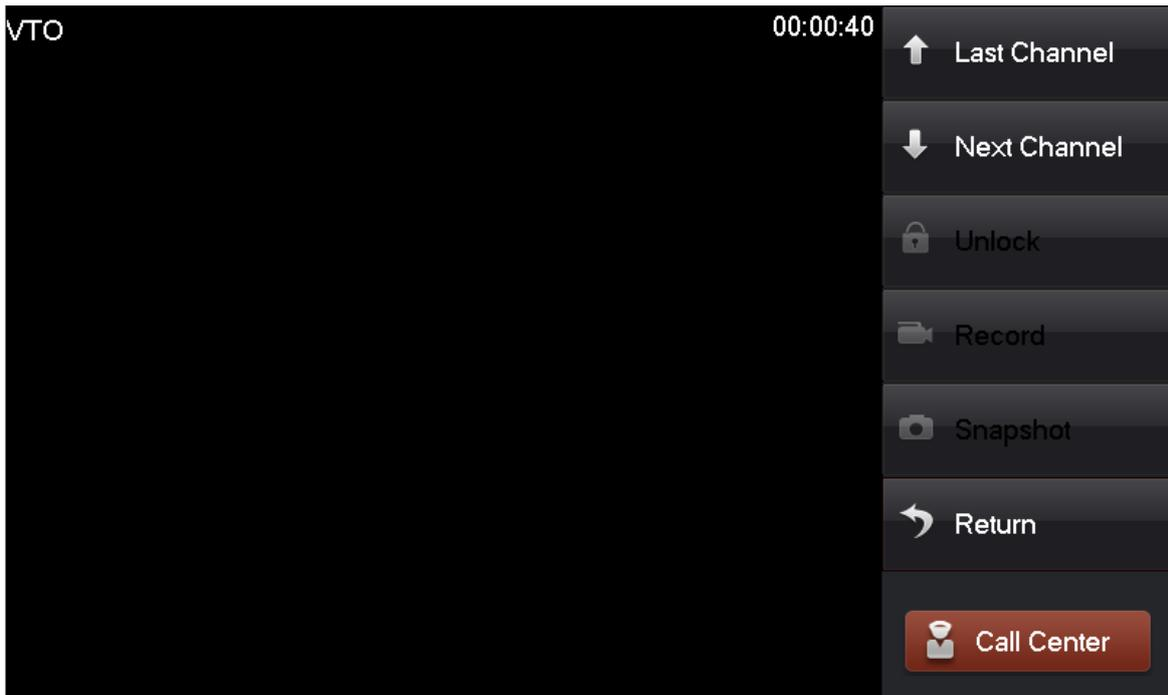

Figure 3-15
Step 2. Select VTO to monitor, see Figure 3-15 and Chart 3-3.